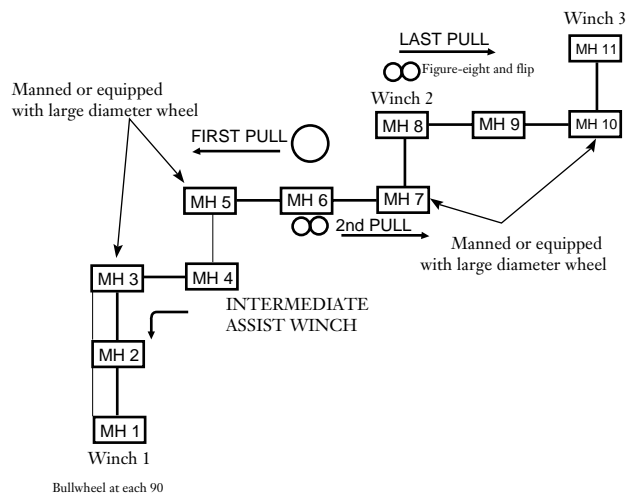

Figure 4 Cable pull plan
3.5 Based upon the cable route survey and the equipment/manpower resources available, develop a cable pull plan (Figure 4).